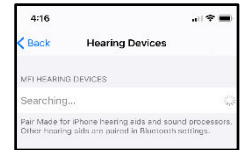

Figure 9
3. Ensure Bluetooth is enabled. The Apple device will start searching for your hearing aids (Figure 9).